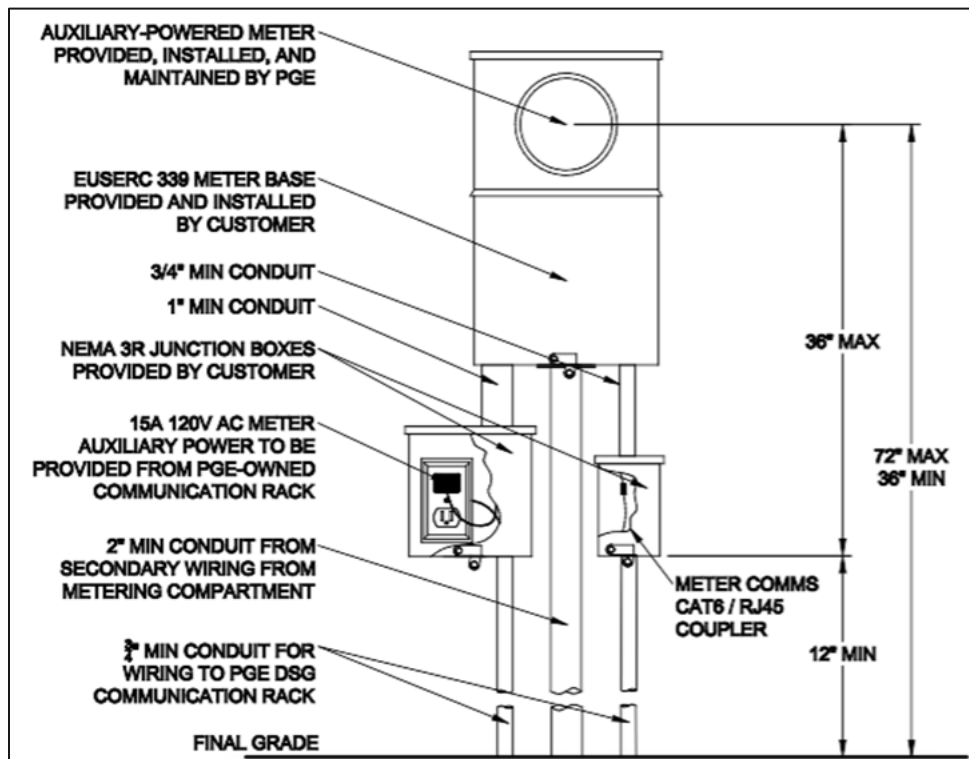

Figure 22: Remote Meter Configuration Used for DSG (STD-M-4001)
If a customer is participating in PGE's Dispatchable Standby Generation (DSG) program or is a Qualified Facility (QF) greater than 3MW, the customer must provide a remote meter enclosure with additional provisions for an ethernet connection from the meter to the customer's local telecommunications point of presence. The customer is responsible for meeting PGE's DSG communication requirements for real-time monitoring. DSG metering requirements are shown in Figure 22.